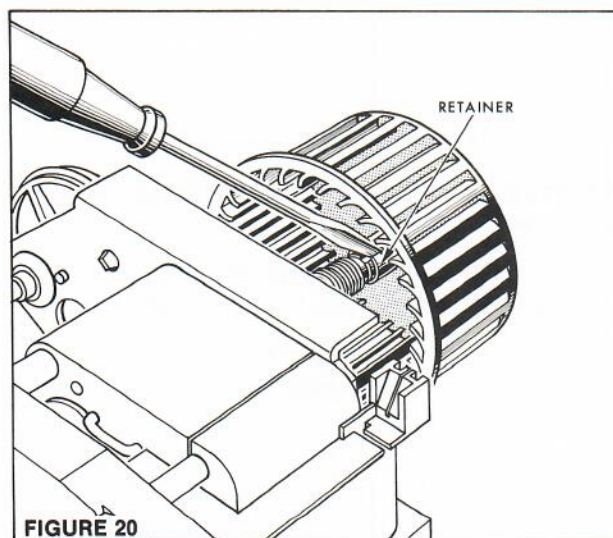

FIGURE 20
7. Insert a screwdriver in the RETAINER, separate the retainer, and slip the fan from the motor shaft, Figure 20, Page 11.